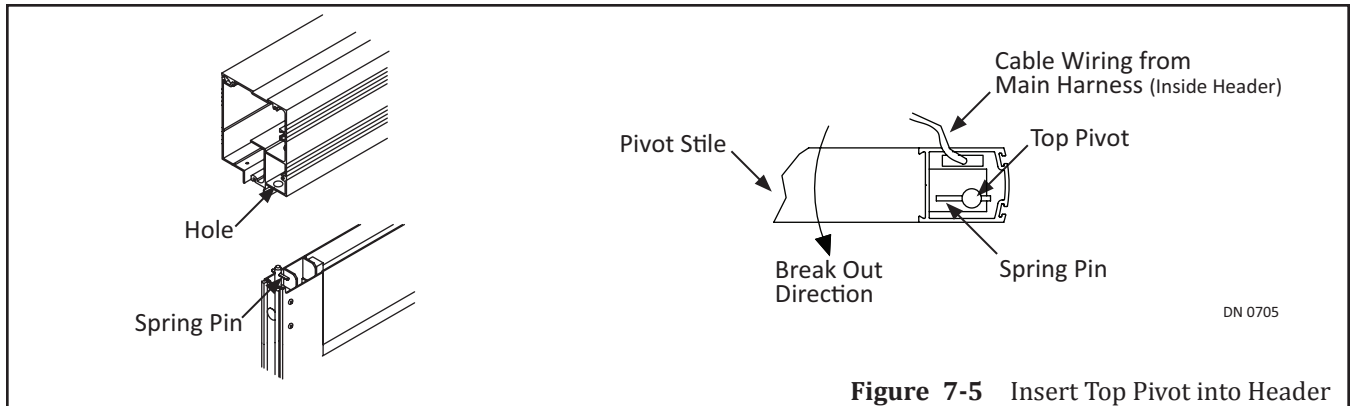

Figure 7-5 Insert Top Pivot into Header
2. Go to the Top Pivot located inside the Pivot Stile. Please see Figure 7-5.